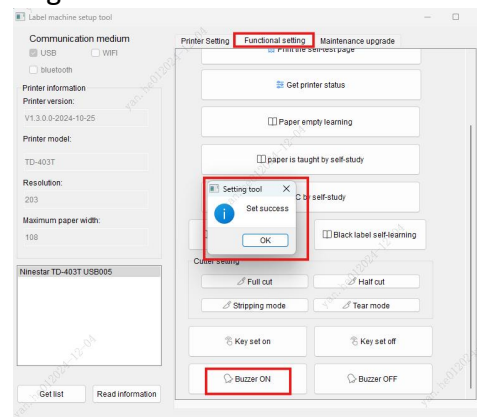

Fig.59
(13)Buzzer ON:Select "Buzzer ON" and a "Set success" prompt box will appear (shown in Fig.59), indicating that the buzzer function is activated normally.